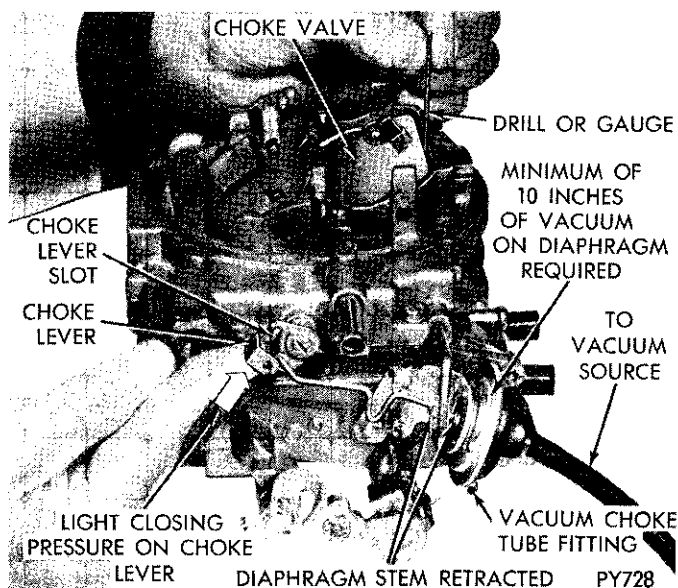

Fig. 13—Checking Choke Vacuum Kick Setting
(1) If adjustment is to be made with engine running, disconnect fast idle linkage to allow choke to close to kick position with engine at curb idle. If an auxiliary vacuum source is to be used, open throttle valves (engine not running) and move choke valve to closed position. Release throttle first, then release choke.
(2) When using an auxiliary vacuum source, disconnect vacuum hose from carburetor and connect it to hose from vacuum supply with a small length of tube to act as a fitting. Removal of hose from diaphragm may require forces which damage the system. Apply a vacuum of 10 or more inches.
(3) Insert specified drill (refer to Specifications) between choke valve and wall of air horn (Fig. 13). Apply sufficient closing pressure on lever to which choke rod attaches to provide a minimum choke valve opening without distortion of diaphragm link. Note that on most units, a cylindrical stem extends as an internal spring is compressed. This spring must be fully compressed for proper measurement of vacuum kick adjustment.
(4) An adjustment will be necessary if a slight drag is not obtained as drill is being removed. Shorten or lengthen diaphragm link to obtain correct choke opening. Length changes should be made by carefully opening or closing the bend provided in diaphragm link. **CAUTION: DO NOT APPLY TWISTING OR BENDING FORCE TO DIAPHRAGM.**
(5) Reinstall vacuum hose on correct carburetor